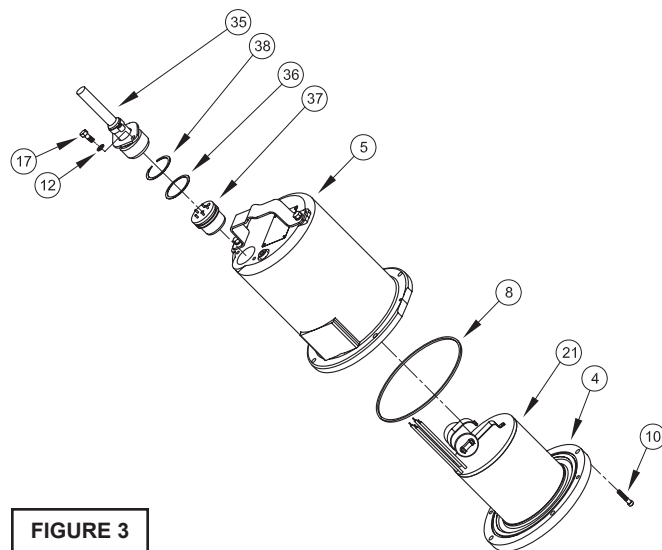

FIGURE 3
To examine or replace the motor (21), capacitor (22, single phase units), and bearing (6), drain oil from motor as outlined in paragraph F-1.2. Disassemble volute and impeller as outlined in paragraph F-2.1 and disassemble shaft seal as outlined in paragraph F-4.1. (See Figure 3, 4, and 11) Position unit upright, using blocks to avoid resting unit on shaft. Unscrew cable hex bolts (17) and remove compression flange (35a) and power cord (35). Remove snap ring (38) with a flat head screwdriver. Pull the terminal block (37) out of the housing (5) using a T-bolt or pair of pliers and a .25-20 screw in the threads of the terminal block (37). Be sure to leave slack on the motor leads connected underneath. Use needle nose pliers to pull each female connector off of the pins on the underside of the terminal block (37) (see Figure 5). The unit voltage should be noted. Repeat cable and terminal removal procedure for any control cables (42). Remove socket head cap screws (9). Vertically lift upper pump assembly from seal plate (1) and spacer ring (26) by lifting handle (18). Inspect square rings (8) for damage or cuts. Disassemble inner seal assembly (34) as outlined in